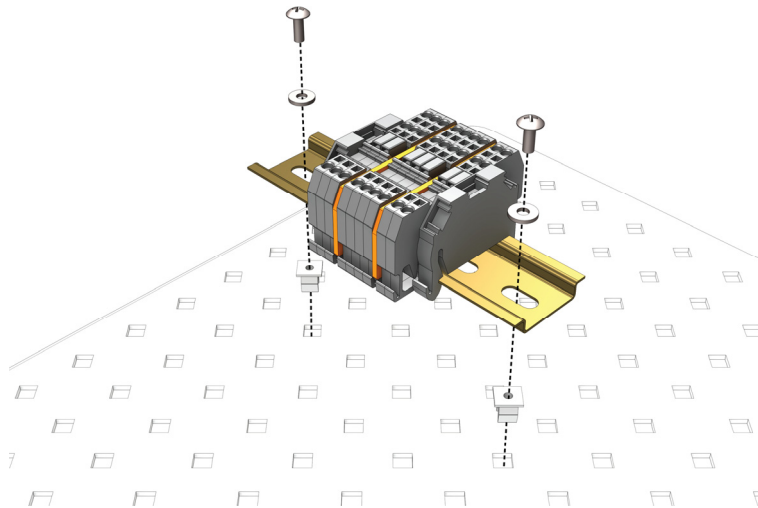

FIGURE B-5. DIN-Rail bracket mounted onto an enclosure backplate
3. Mount the DIN-Rail bracket onto the enclosure backplate using two 505 screws and two 6044 grommets (see FIGURE B-5).